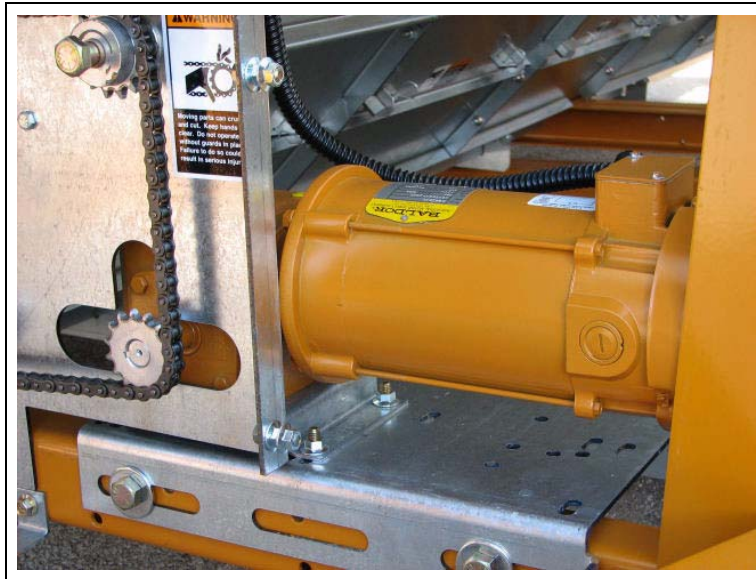

Figure 7F Meter Roll Motor and Speed Reducer Gear Box for the Metering Rolls.
This dryer is equipped with SCR (silicon controlled rectifier) metering roll drive assembly. The metering rolls are driven by a separate DC type electric motor. The speed of the motor is variable and is controlled by an electric SCR control within the main control box. (*See Figure 7F.*)
- SCR speed control:** The control unit dial on the front of the control box regulates the speed of the DC motor which drives the metering rolls. (*See Figure 7F.*)
2. **DC electric motor:** The direct current (DC) motor provides the drive for the metering roll and is located on the front left hand side of standard model dryers. The output shaft of the motor is connected directly to the gear box assembly. *(See Figure 7F.)*
3. **Speed reducer gear box:** The direct drive gear box provides the required speed reduction, and transmits power to the metering rolls through a drive chain arrangement. The gear box does not require adjustment. The drive chain should also be periodically lubricated and tensioned as necessary. *(See Figure 7F.)*
4. **Unload auger time delay:** The delay controls the bottom auger system and causes the unload auger (and any connected auxiliary unloading conveyors) to continue operating for the programmed amount of time, even after the metering rolls stop. *(See Figure 7F.)*